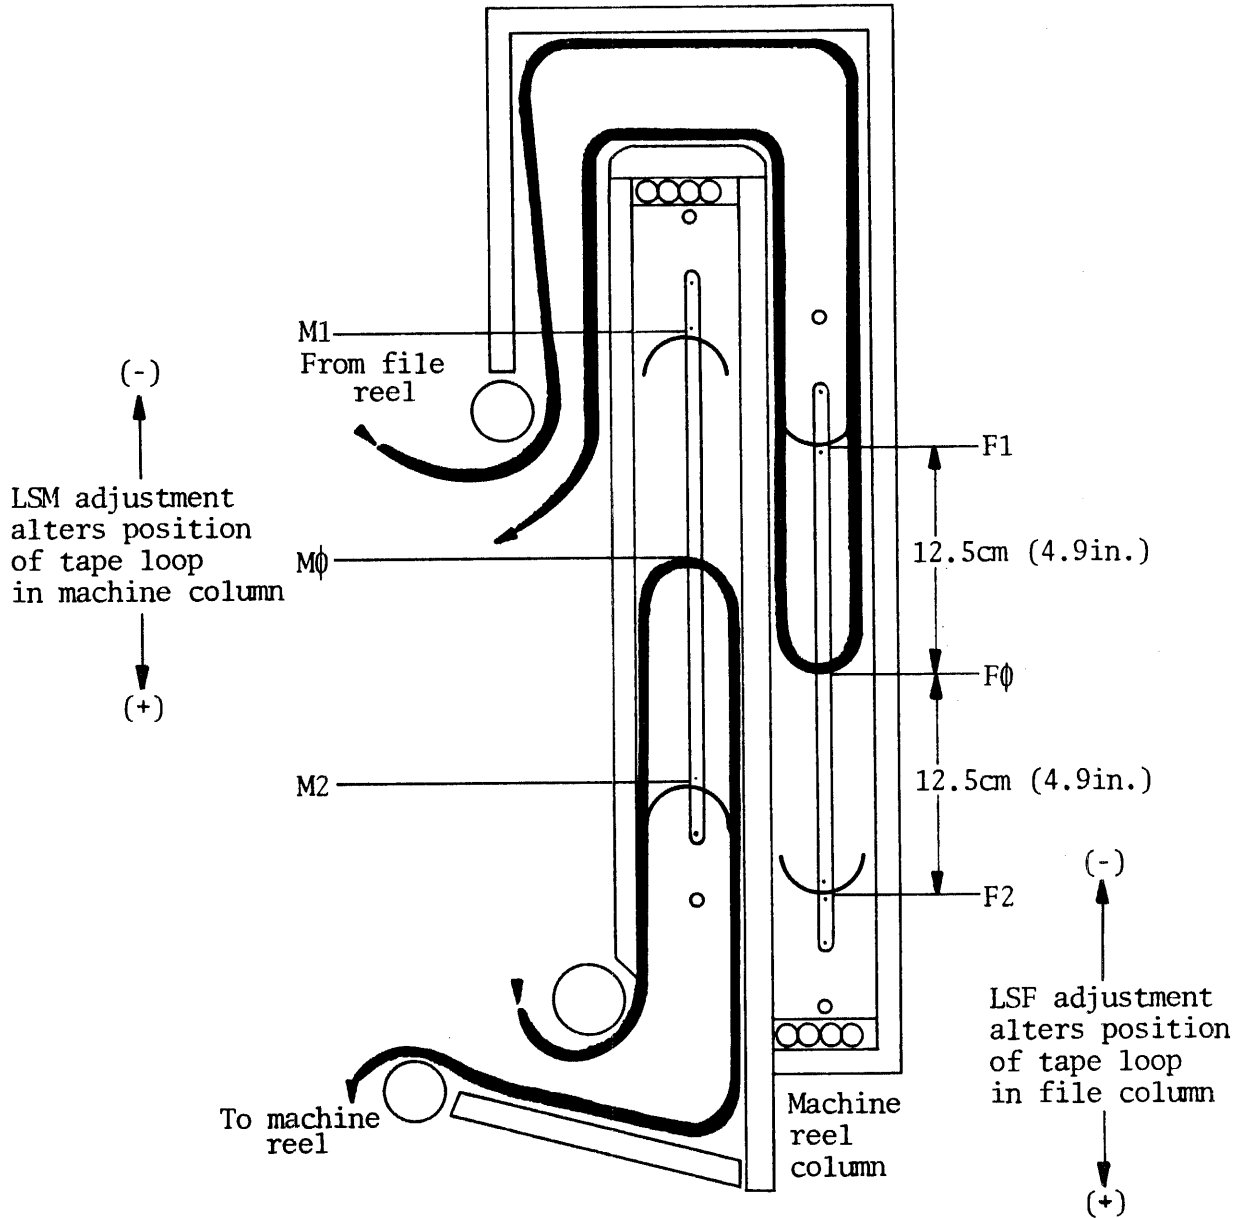

Figure 4-7. Tape loop positions. Tape is shown at positions F0 and M0.
- (1) IF tape is loaded, press the UNLOAD button on the MTU front panel. If air pressure is not on, set field tester S0 through S7 to \$A8 and toggle SSS switch.
- (2) Manually feed the tape inside the column, and adjust the tape loop to positions F0 and M0 shown in Figure 4-7. (Hold the file reel in position by taping the reel to the column door.)
Toggle the SSS switch to start the capstan moving forward. Toggle the SSS switch again when the loop of magnetic tape is at positions F1 and M1 in Figure 4-7. The tape will stop.
Toggle the SSS switch to start the capstan moving backward. Toggle the SSS switch when the tape is at positions F2 and M2 in Figure 4-7. The tape will stop.